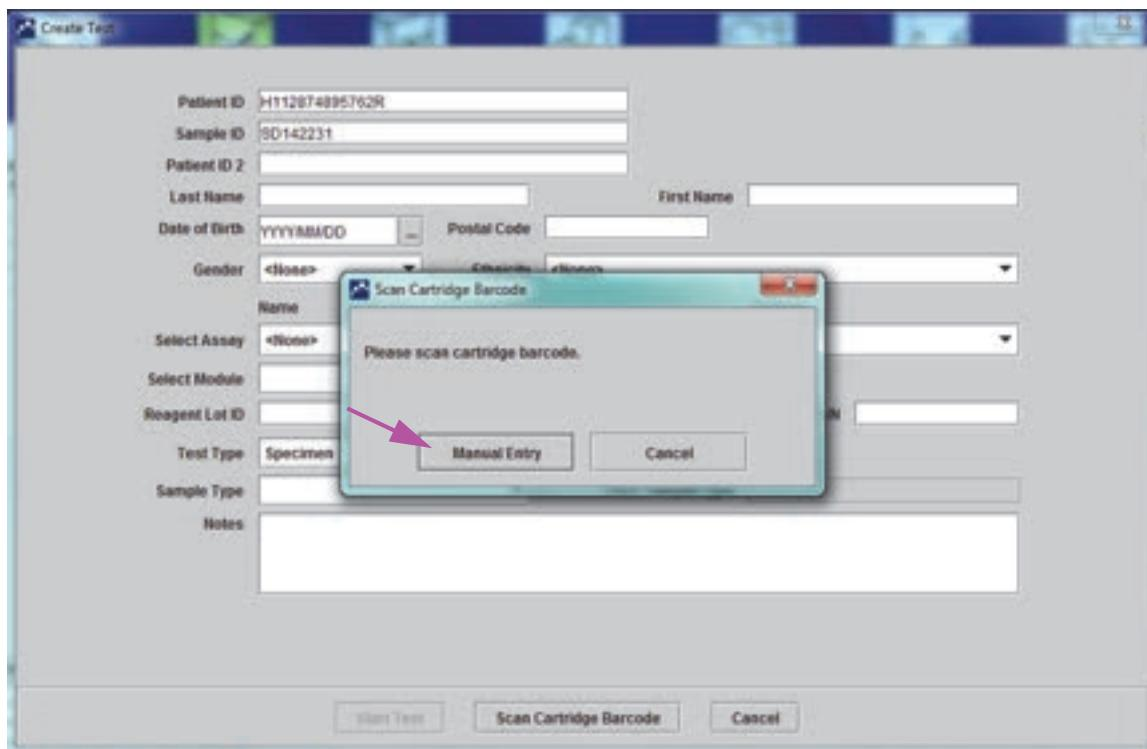

Figure 5-21. Scan Cartridge Barcode Dialog Box
3. Scan the Sample ID barcode using the supplied barcode scanner. See Section 5.5. The Scan Cartridge Barcode dialog box appears. See Figure 5-21.